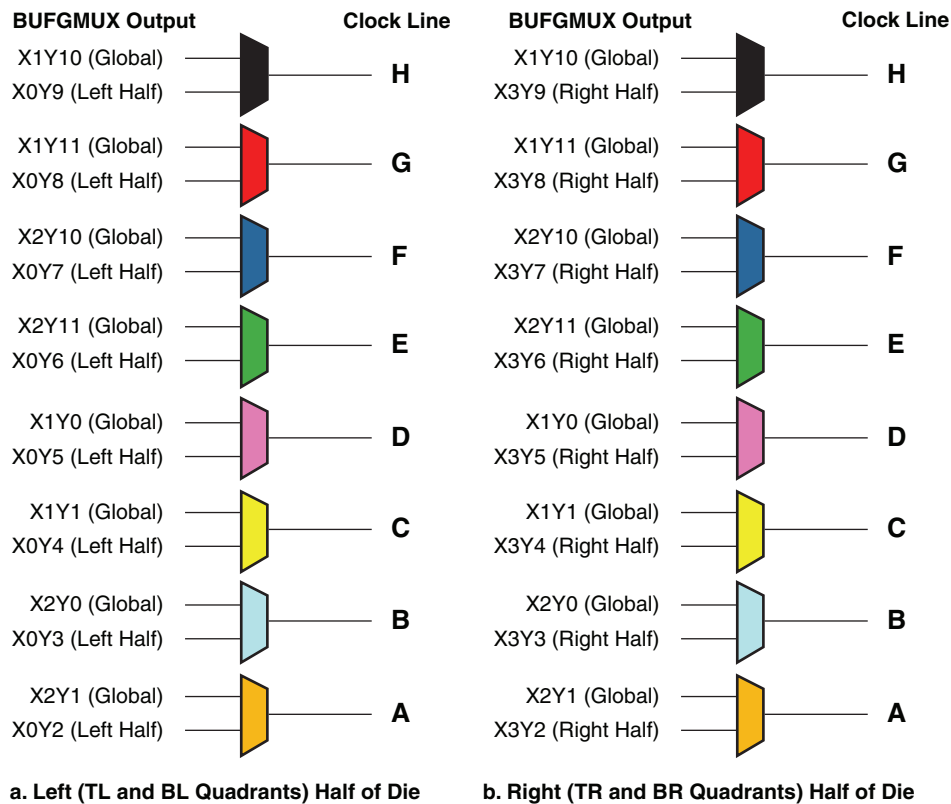

Figure 47: Clock Sources for the Eight Clock Lines within a Clock Quadrant
Each of the eight clock signals in a clock quadrant derives either from a global clock signal or a half clock signal. In other words, there are up to 24 total potential clock inputs to the FPGA, eight of which can connect to clocked elements in a single clock quadrant. Figure 47 shows how the clock lines in each quadrant are selected from associated BUFGMUX sources. For example, if quadrant clock 'A' in the bottom left (BL) quadrant originates from BUFGMUX\_X2Y1, then the clock signal from BUFGMUX\_X0Y2 is unavailable in the bottom left quadrant. However, the top left (TL) quadrant clock 'A' can still solely use the output from either BUFGMUX\_X2Y1 or BUFGMUX\_X0Y2 as the source.